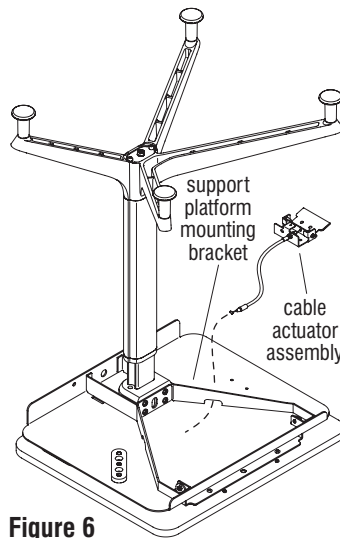

Figure 6
2. Guide the barrel end of the cable into the opening on the support platform mounting bracket, close to the mounting head (Figure 6 & Detail F).